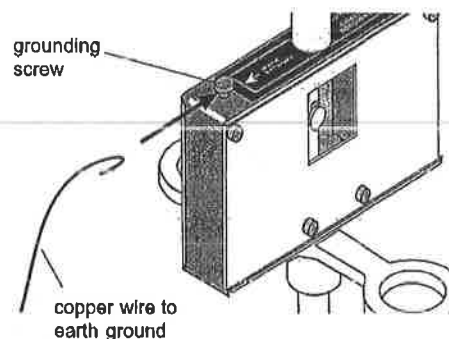

Figure 11
2. Attach copper wire to the grounding screw (Figure 11), and ground it to the earth.